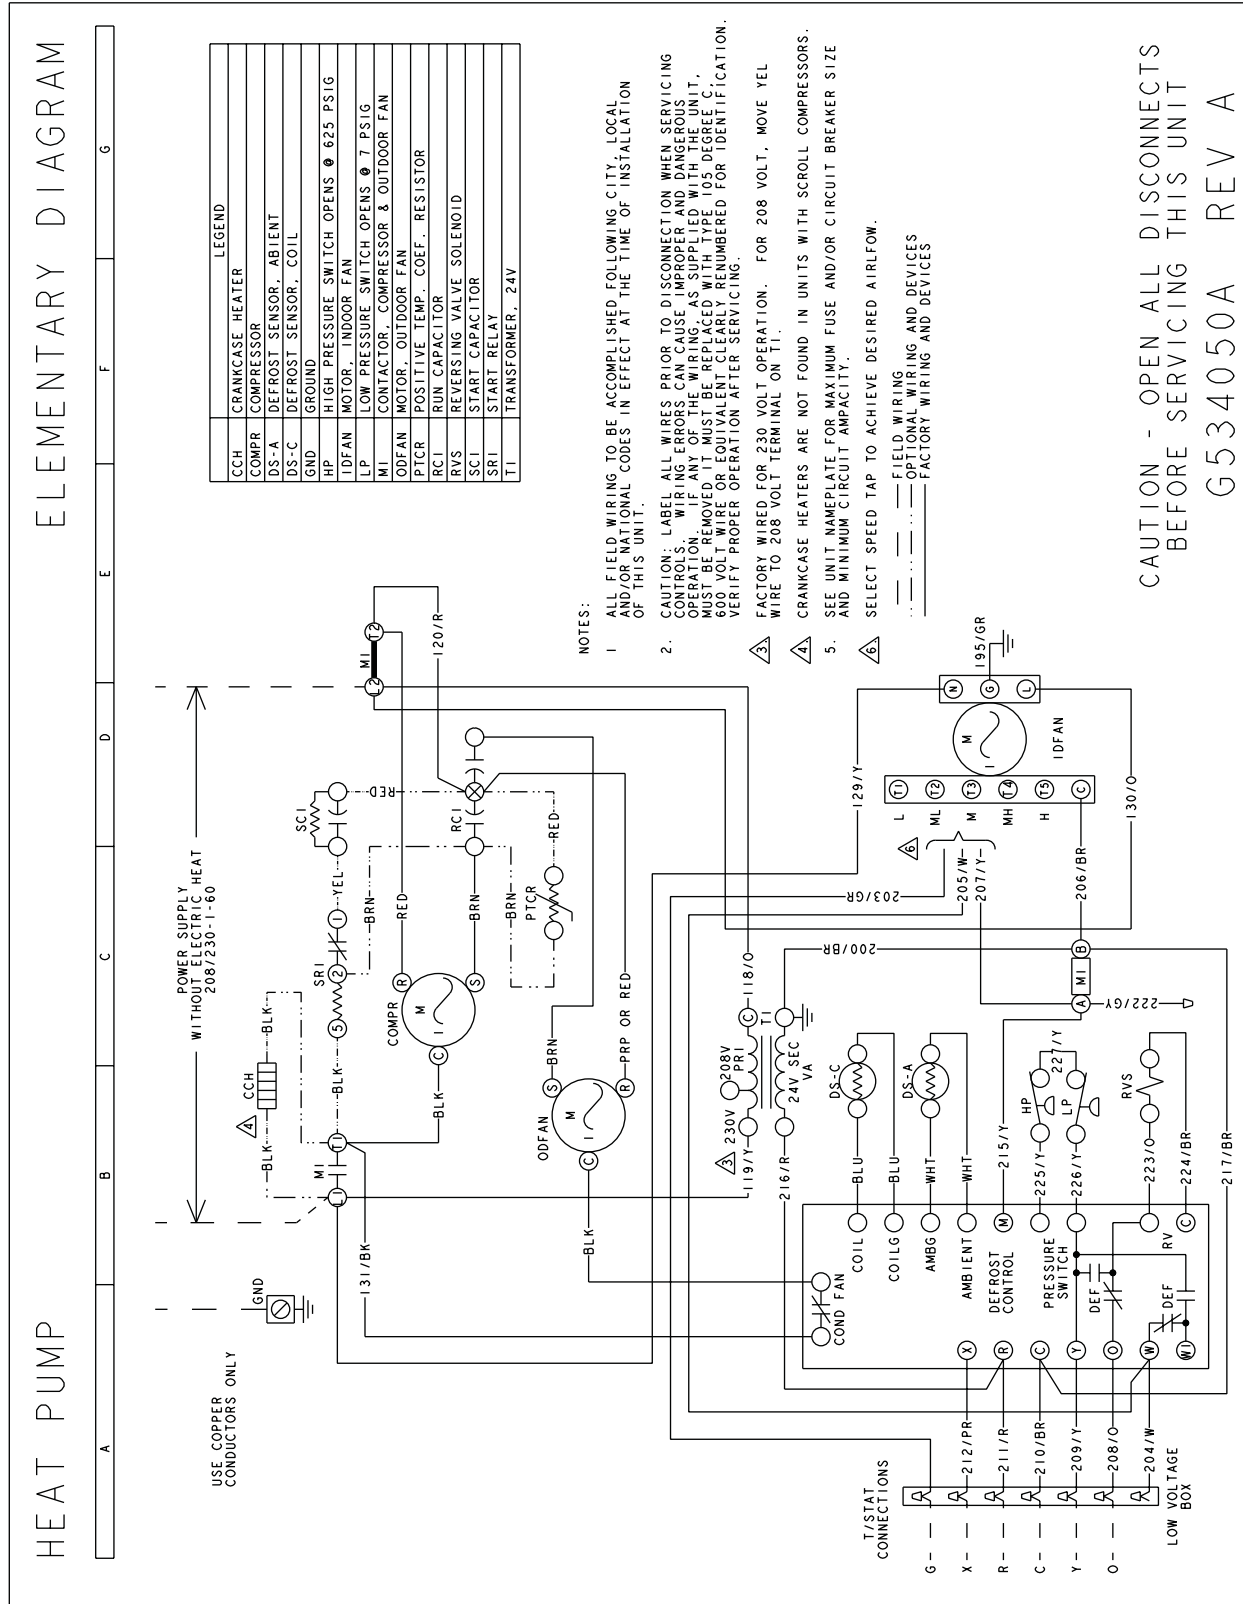

FIGURE 5: TYPICAL UB, UQ 024, 030, 036, 042, 048 & 060 WIRING DIAGRAM
4. Attach the brown lead wire from the starting kit relay #2 to the same terminal on the run capacitor that was located in Step 3. See Figure 5.
NOTE: The wiring of the capacitor and relay must agree with Figure 5. Also, see diagram on control box cover.